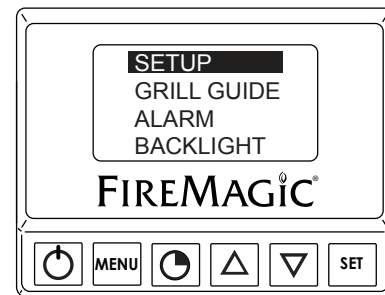

Fig. 28-4 Menu screen
**Press the power button to turn the thermometer ON.** The default screen will be displayed. Press the **MENU** button to display its screen. Press the up/down arrow to scroll through the options (see Fig. 28-4).